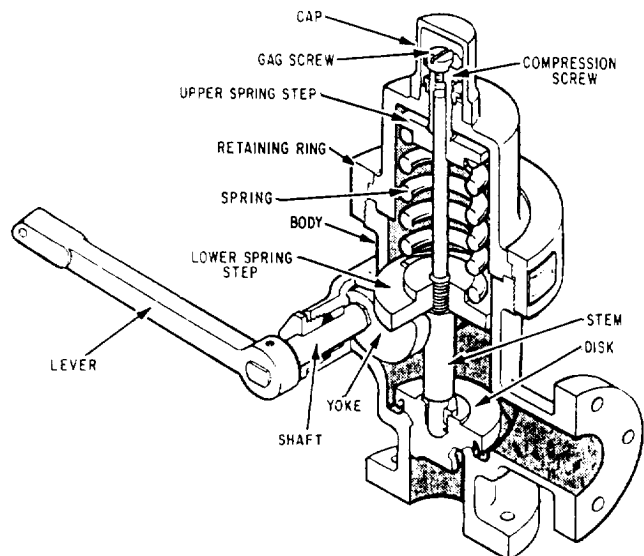

Figure 9-24.—Typical relief valve.
**RELIEF VALVES.**— Relief valves are automatic valves used on system lines and equipment to prevent overpressurization. Most relief valves simply lift (open) at a preset pressure and reset (shut) when the pressure drops only slightly below the lifting pressure. Figure 9-24 shows a relief valve of this type. System pressure simply acts under the valve disk at the inlet of the valve. When system pressure exceeds the force exerted by the valve spring, the valve disk lifts off its seat, allowing some of the system fluid to escape through the valve outlet until system pressure is reduced to just below the relief set point of the valve. The spring then reseats the valve. An operating lever is provided to allow manual cycling of the relief valve or to gag it open for certain tests. Virtually all relief valves are provided with some type of device to allow manual cycling.